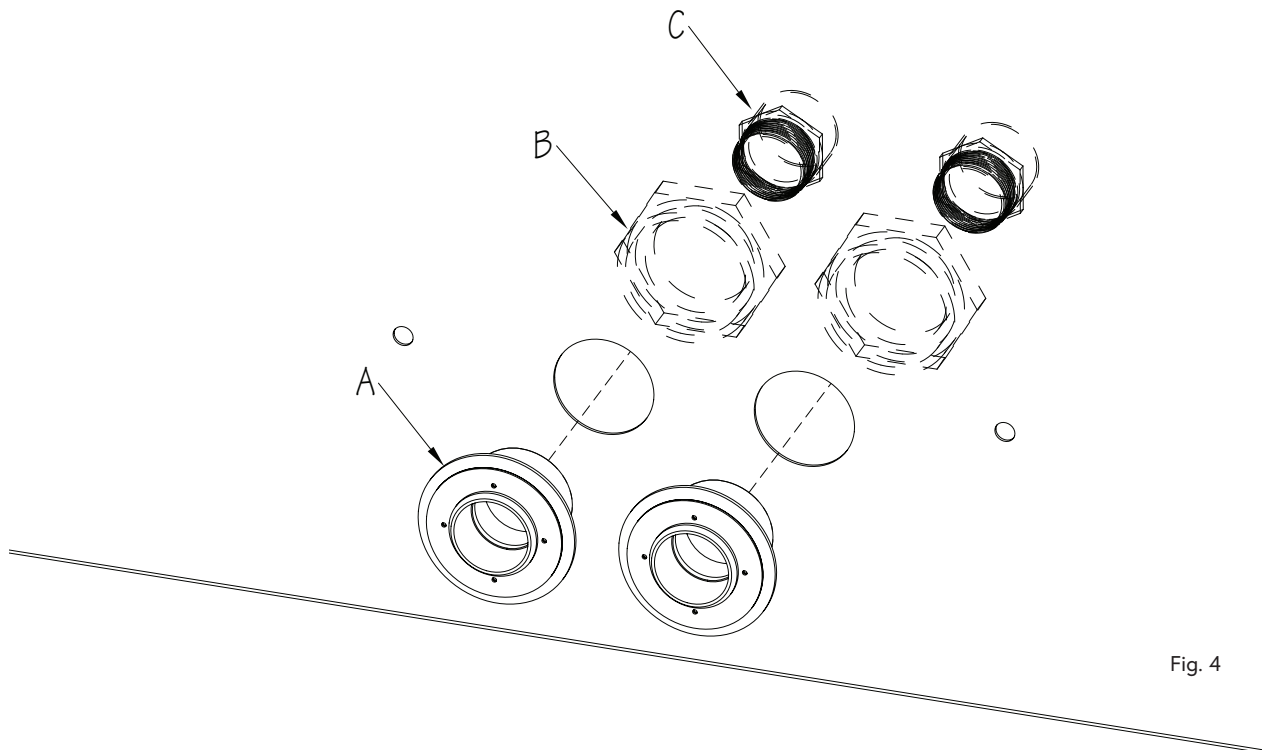

Fig. 4
2. On the inside of the pool, insert the Star Thru-Wall Fittings (A) through the holes cut out in the pool wall, making sure the holes around the perimeter of the fitting are oriented in the 12, 3, 6, and 9 o'clock positions as shown.
Thread the Locknuts (B) onto the fittings from the backside of the pool wall. Apply Teflon tape or sealant to the threads of the FSlip x MPT Adapters (C) and then thread the Adapters into the Star Thru-Wall Fittings (Fig. 4).